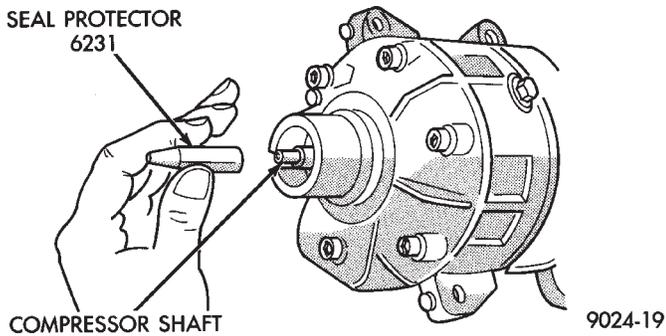
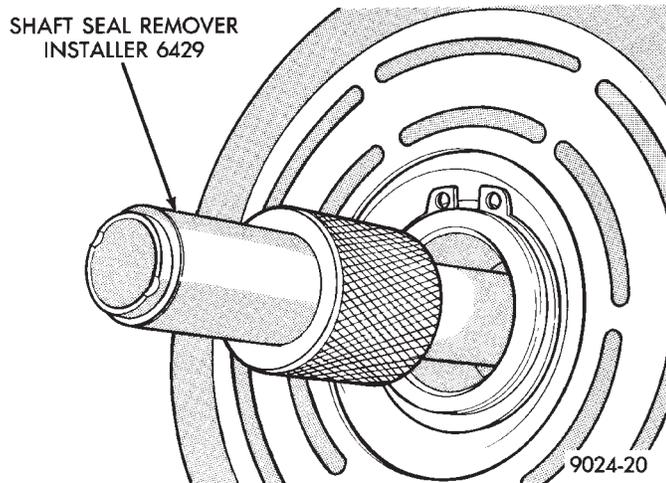

Fig. 4 Shaft Seal Protector
Fig. 5 Install Shaft Seal
- (1) Lubricate the new shaft seal with refrigerant oil.
- (2) Place Seal Protector (6231) over the end of compressor shaft (Fig. 4). Use the larger flat end of the remover/installer to push the seal in until it seats. The snap ring groove should be visible above the seal (Fig. 5).
- (3) Install clutch/coil assembly.
- (4) Install compressor.